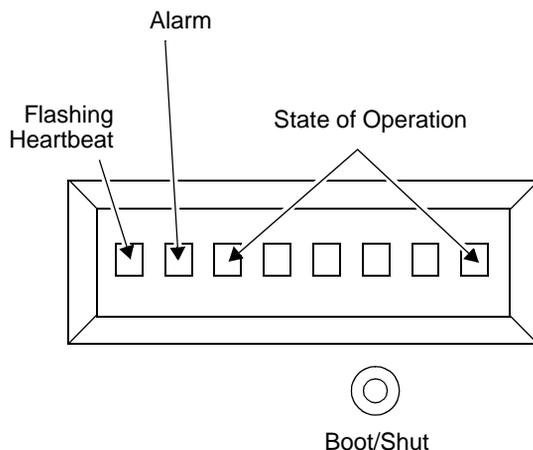

Figure 2-7. MAPD System LCD Display
- A 104A connecting block will be mounted on the wall within reach of this connector. This can be supplied by Lucent Technologies. Eight wires must be hard-connected across the two mounting blocks inside the 104A prior to mounting it to the wall, as shown in Figure 2-7, "104A Connecting Block." The ends of each wire are stripped of insulation. A punch-down tool is used to press the ends of these eight wires into the mounting blocks. Four protector caps snap over the top of the mounting blocks.